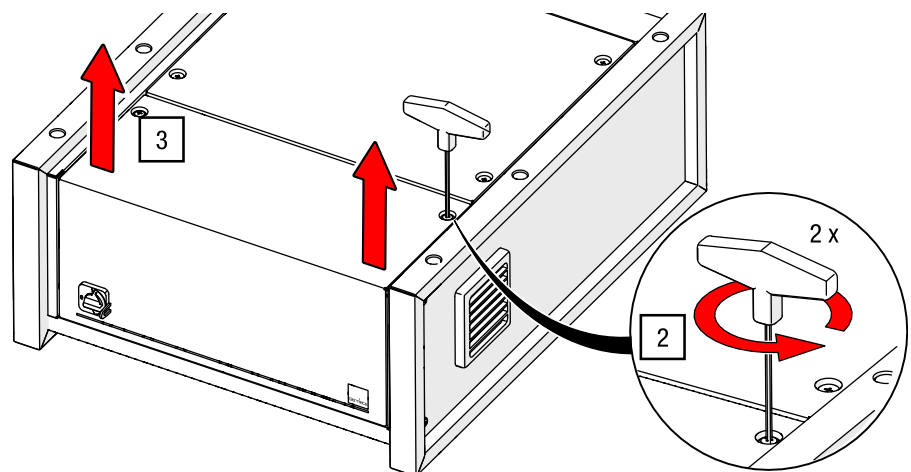

Fig. 16: Release and lift the control panel (control model may differ)
G-FRAME control unit	<ul style="list-style-type: none"> The control panel is mounted on the front of the horizontal control unit (see Fig. 16) The control unit is disconnected from the power supply
- Loosen the control panel with the Allen key AF 3 on both sides (see Fig. 16).
- Lift the control panel from the control box (see Fig. 16).